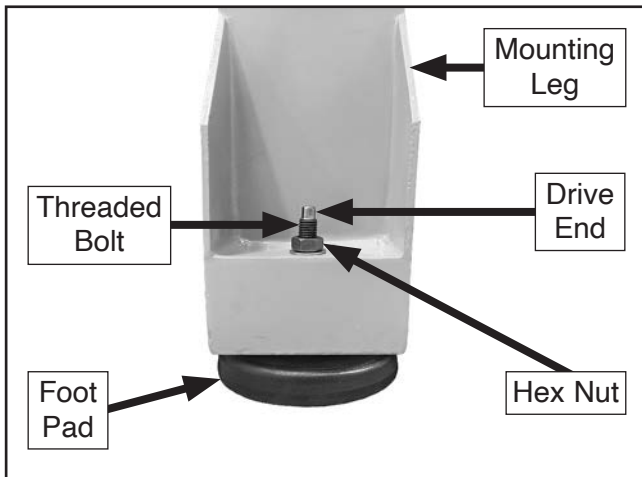

Figure 29. Leveling foot components.
2. Loosen hex nut and adjust drive end on threaded bolt (see **Figure 29**). Tighten hex nut against mounting leg to secure.